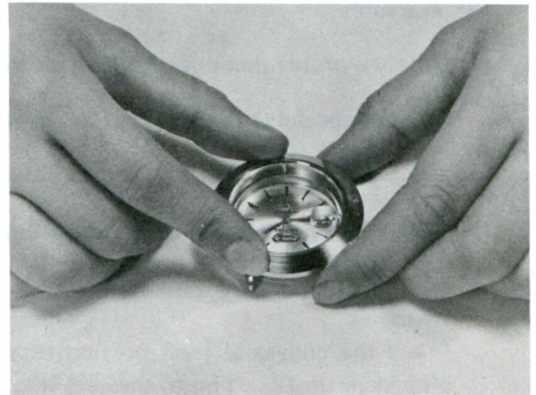

Fig. 7
- a. Set the lower endpiece of the appropriate O-Ring Setter on the top of the watchcase (Fig. 7).